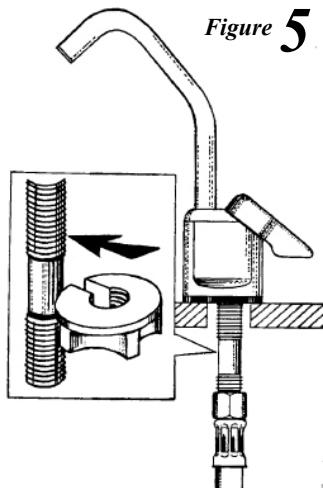

Figure 5
6. **Mount Faucet.** Slide open side of Faucet Mounting Nut onto reduced diameter (Fig. 5), un-threaded section of Faucet Stem now beneath the sink, and slide the Nut upwards to contact the threads. Then carefully engage the threads, being careful to not cross thread. Hand tighten as necessary to hold the Faucet in place, but **do not use tools and do not overtighten.** Check alignment and position of Faucet, and adjust as necessary. (We suggest you practice threading the Nut to the Stem above the sink, prior to the actual installation, to become familiar with the method before installing Faucet to sink.)